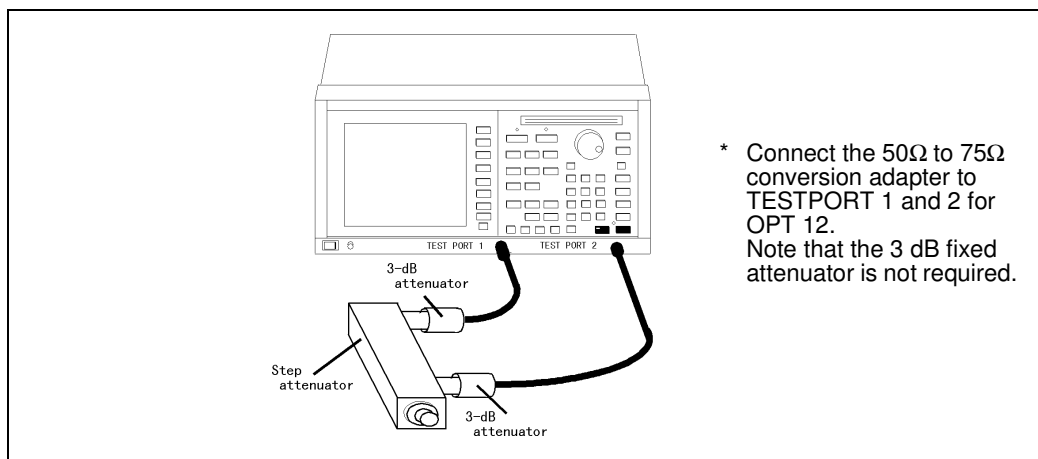

Figure 10-33 Connections for TEST PORT 1 Measurement for Dynamic Level Accuracy
- (1) Connect two 3-dB attenuators and step attenuator using the RF cables between TEST PORT 1 and TEST PORT 2 shown in Figure 10-33.